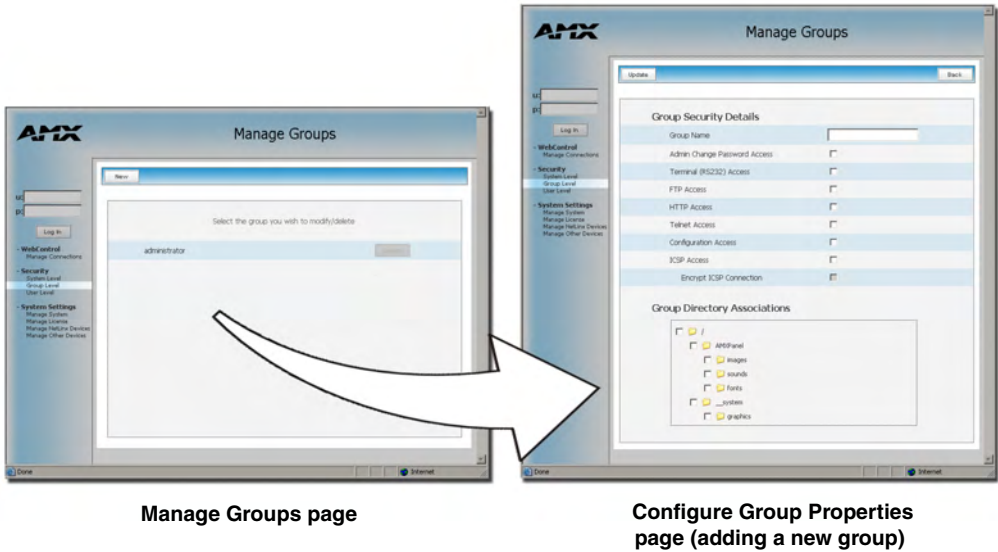

FIG. 44 Group Level Security - Manage Groups Security page
To access this page, click the **Group Level** link (from within the Security section of the Navigation frame). This page (FIG. 44) allows an authorized user to both select and modify an existing group, delete an existing group, or add a new group. *Unless you are logged in with administrator privileges, you will not be allowed to modify the default administrator profile.*
2. Click the **New** button to be transferred to the Configure Group Properties page (FIG. 44).
2. Press the **Select** button (next to the selected Group name) to open the Configure Group Properties page (FIG. 44) for the particular group.